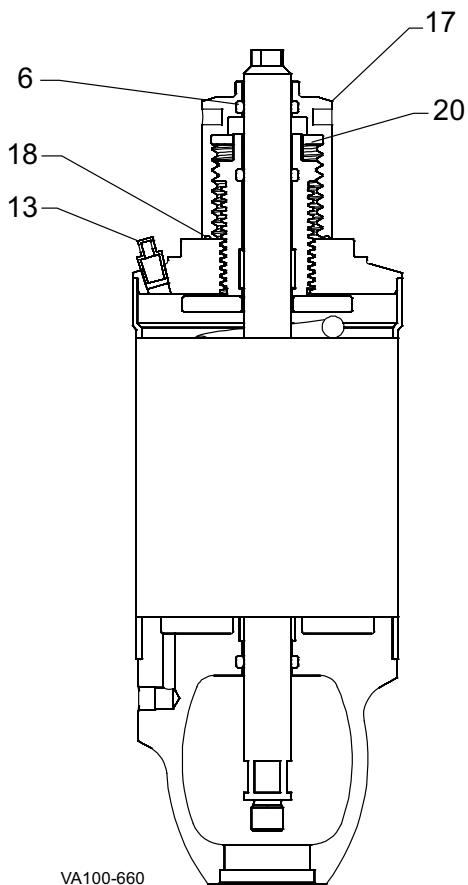

Figure 41: 4", 5", and 6" Air-to-Raise, Adjustable-Spring Actuator
4. Unscrew and remove the locknut cover (Figure 41, item 17). Unscrew and remove the adjustment screw (item 20). Check for free movement of the stem to ensure that no compression remains.
5. Inspect the O-ring (item 6) in the adjustment screw (item 20). Remove the worn O-ring seals. Coat the new O-ring seals with Dow Corning® #7 Silicone Lubricant or equivalent, and replace them.
6. Remove the PTFE guide bearing (item 5) in the adjustment screw by placing a screwdriver behind the bearing to pry it away from the wall of the yoke (item 12). Use needle-nose pliers to grip and remove the bearing.
7. Using wrenches on the upper and lower wrench flats, unscrew and remove the lower stem (item 3). **Do not remove the upper stem (item 1), as it locates an internal support washer.**
8. Remove and inspect the yoke area stem O-ring (item 11). Remove the worn O-ring seal. Coat the new O-ring seals with Dow Corning® #7 Silicone Lubricant or equivalent, and replace them.
9. Inspect and replace the PTFE guide bearing (item 15) in the yoke as needed.
11. Once secure, screw in the adjustment screw (item 20) until it is held by threads (not in its final position). Refer to Adjustable-Spring Actuators: Pressure Setting (Table 2 on page 17) for setting it to the desired loading pressure.